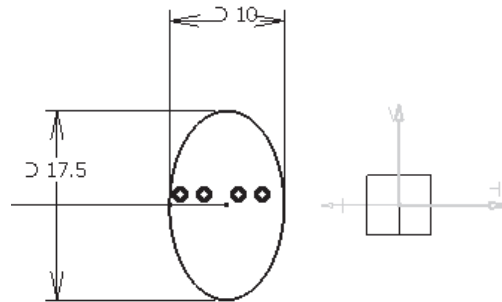

Figure 10-66 The sketch of the sweep profile for creating the second sweep feature
6. Draw the sketch of the sweep profile, as shown in Figure 10-66.